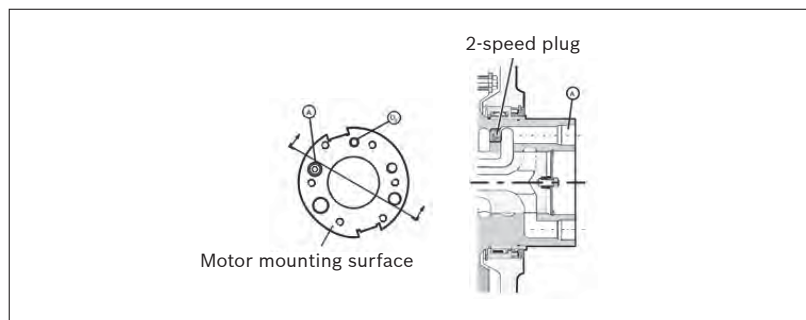

Fig. 14:
Before mounting of the valve, check that the motor is mounted into the bracket with "D2" connection on the motor mounting surface facing upwards, see figure 14.
- Mount the plug BSTP 3/4" (included in the mounting set) in the bottom of the hole for port "A", see figure 14.